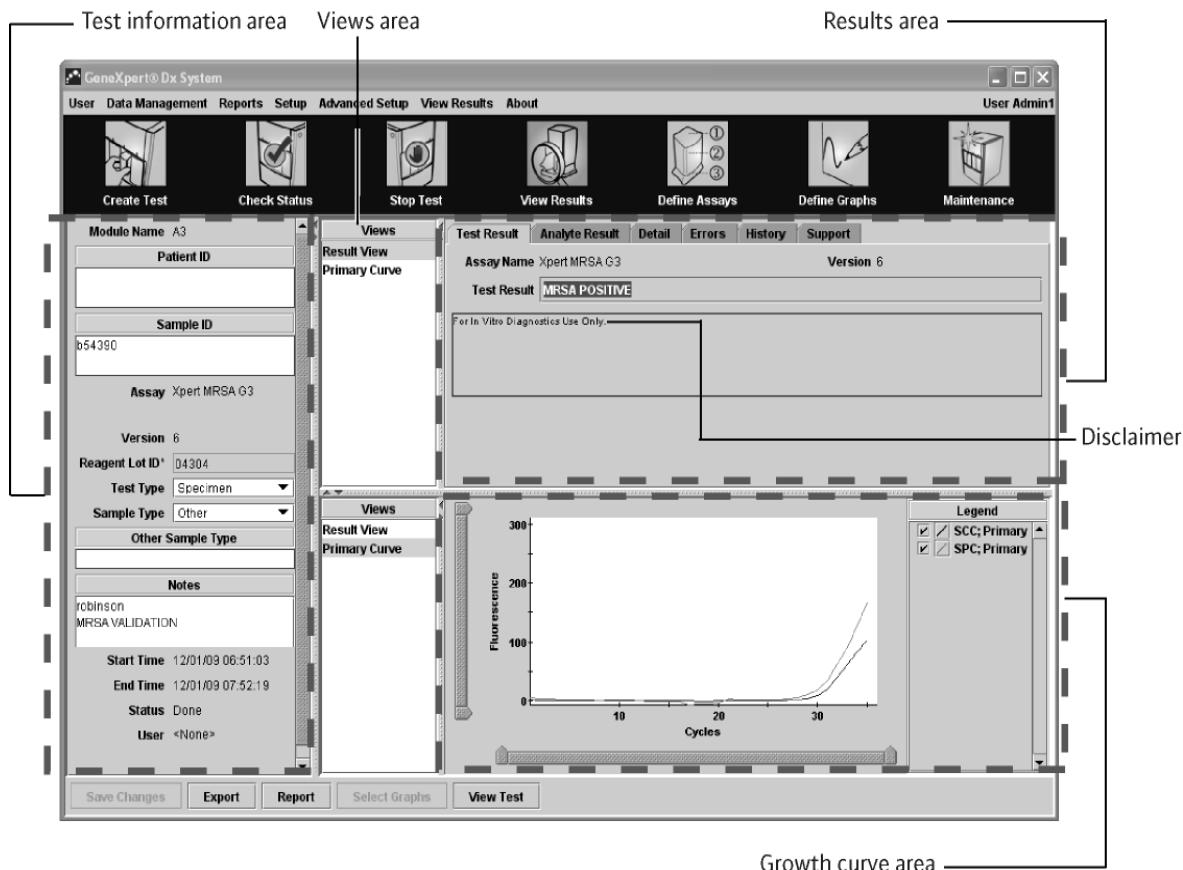

Figure 5-27. GeneXpert Dx System, View Results window—Test Result tab (Detail users and administrator view)
Figure 5-27 shows the View Results window for Detail users and the administrator. The window is divided into four areas:
- The Test Result tab of the Result View displays the following information for a test (Figure 5-27):
To generate a PDF file containing the test results, in the View Results window (Figure 5-27), click **Report**.